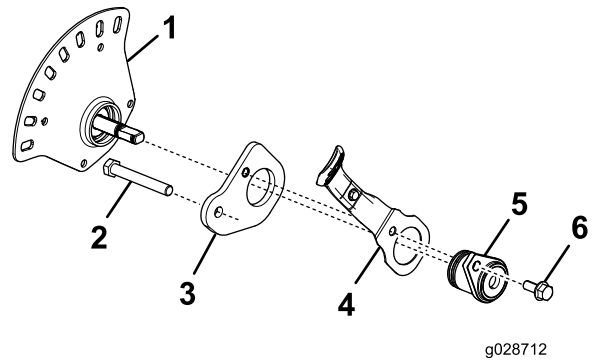

Figure 5
7. Assemble the parts for the height-of-cut assembly (Figure 5) using the height-of-cut plate, the rear pivot plate, and the bolt (5/16 x 3/4 inch) from the kit.